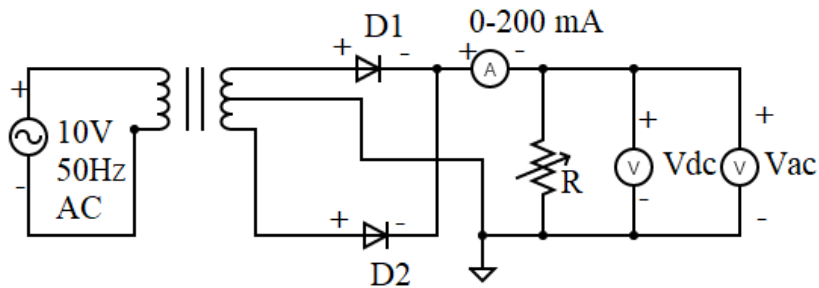

Figure 6.1: Circuit Diagram for Full Wave Rectifier without Filter
1. Connect the circuit as shown in Figure 6.1.